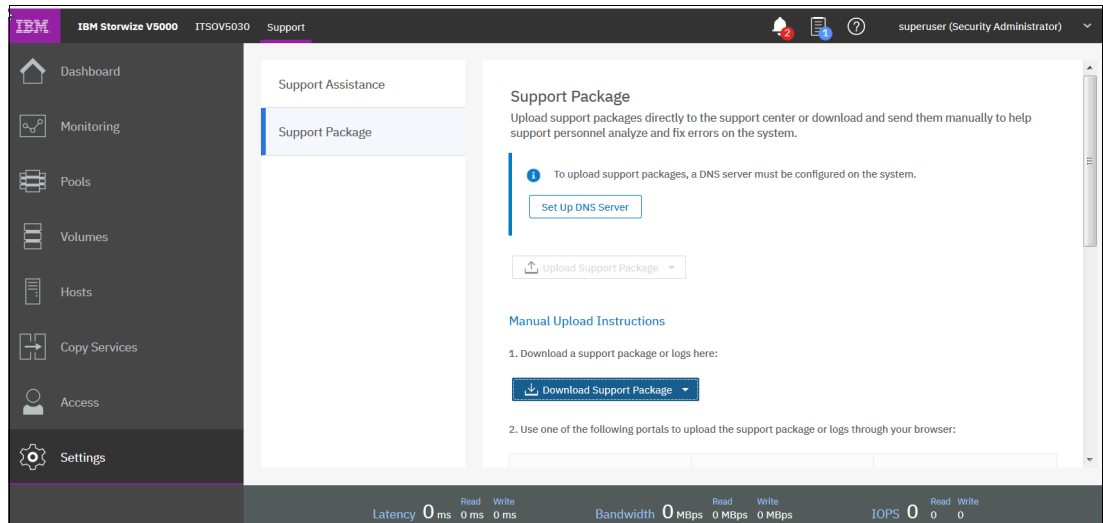

Figure 12-24 Manual Upload Instructions
1. Browse to **Settings** → **Support** → **Support Package** and select from under **Manual Upload Instructions** → **Download Support Package** (see Figure 12-24).